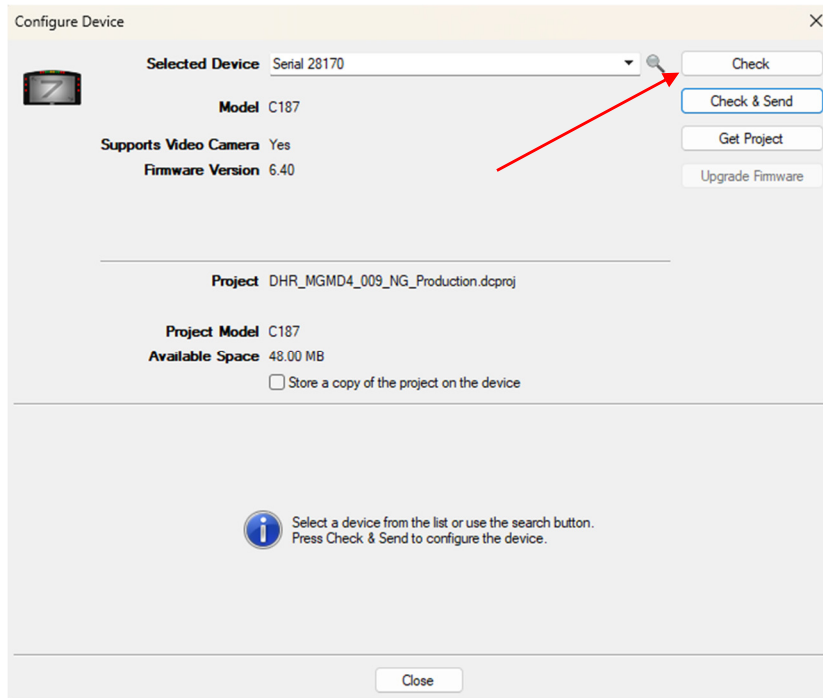

Figure 4.46: Display Creator – configure device.
8. Confirm that your device is available in the “Selected Device” drop down as shown in Figure 4.46. If not check your serial cable connections.